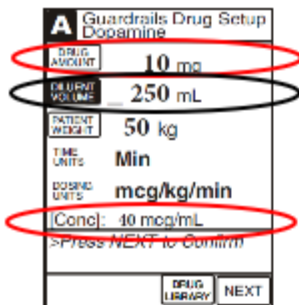

Figure 4. PC unit programming screen
- 10 in the “DRUG AMOUNT” field (Figure 4)
- 250 in the “DILUENT VOLUME” field, which would then lead to the next programming screen to enter the dose. (Figure 4)